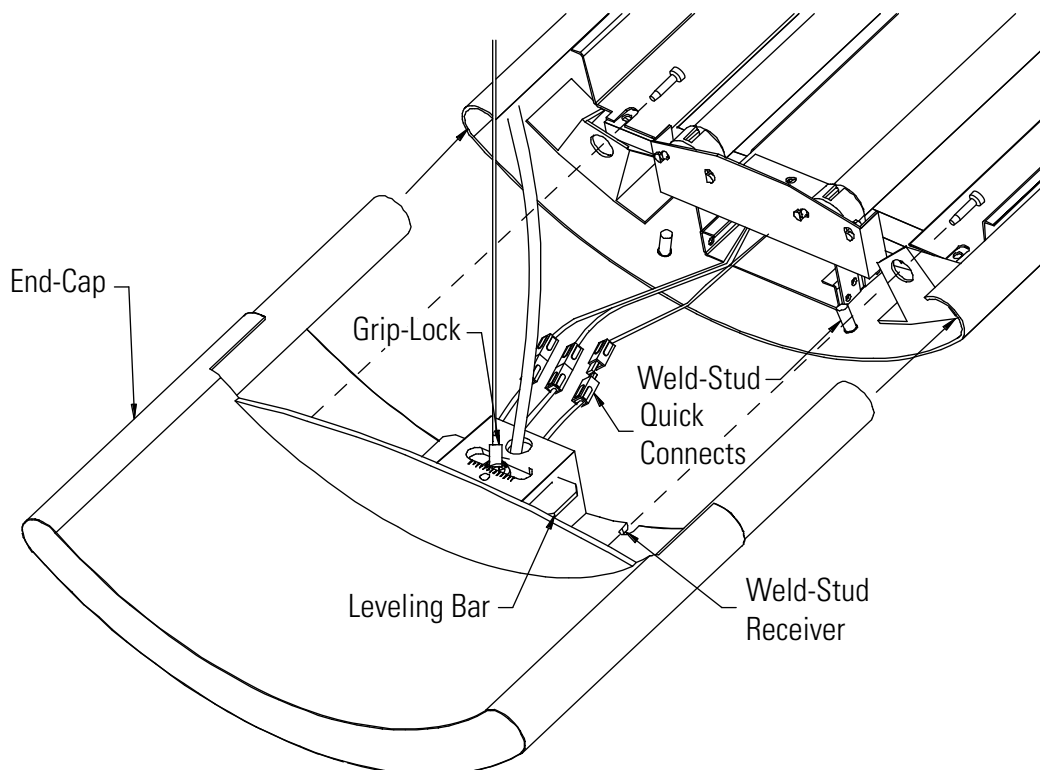

Figure 1
1. Install hanging systems; see appropriate instruction sheet on page 9, 10, and 11 for instructions. On one end of the fixture connect the quick-connects and install the end cap. Slide the end cap on until the weld-studs are flush with the inside of the weld-stud receivers. Then tighten the nuts on the weld-studs with a 11/32" socket. (Fig. 1) While supporting the fixture, depress the nipple at the top of the cable gripper mechanism. This will allow the fixture to be moved up or down on the cable. By releasing the pressure on the nipple the gripper will then hold the cable in position. Be sure not to over tighten because dimpling could occur on opposite side of housing.